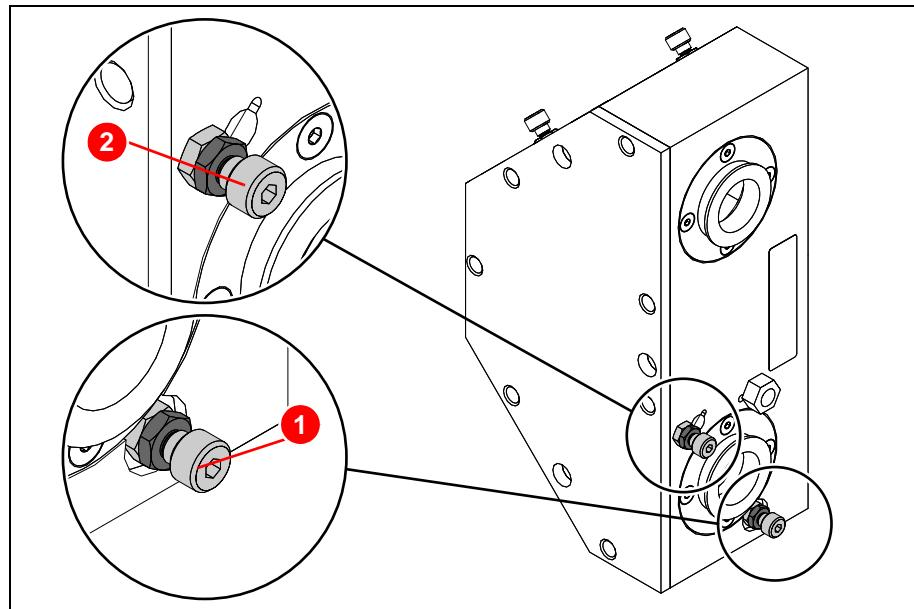

Figure 6.28 Beam adjustment of the lower deflecting mirror
- Horizontal adjustment (1) (Figure 6.28)
- Vertical adjustment (2) ()